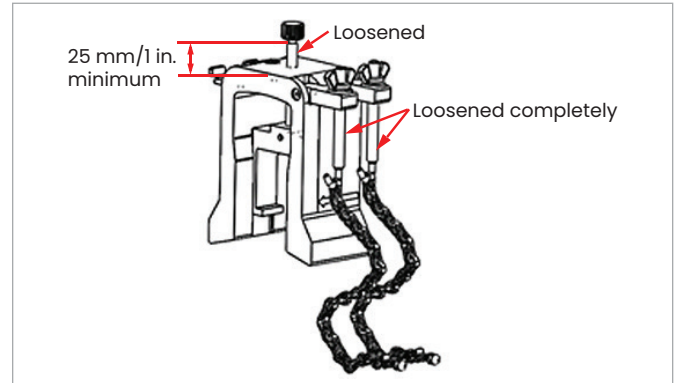

Figure 25: Loosened yoke screw and J-hooks
1. Loosen the yoke screw at least 25 mm/1 in. (all the way for pipes <50 mm/2 in.) and loosen the J-hooks all the way (see *Figure 25* below).